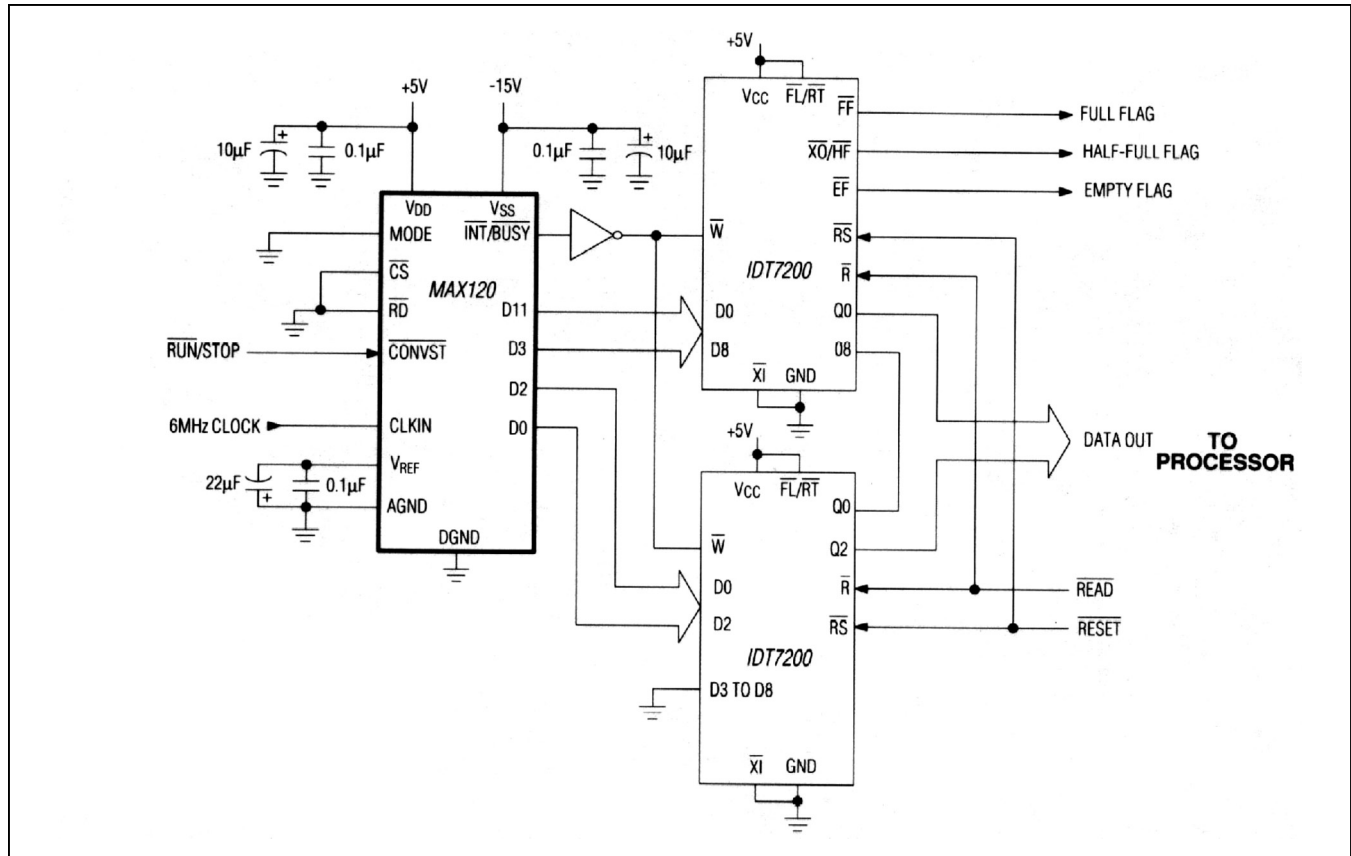

Figure 13. Using MAX120 with FIFO Memory
Using FIFO memory to buffer blocks of data from the MAX120 reduces  $\mu$ P interrupt overhead time by enabling the  $\mu$ P to process data while the MAX120, unassisted, writes conversion results to the FIFO. To retrieve a block of data, the  $\mu$ P reads from the FIFO via a read-interrupt cycle. Read and write operations for the FIFO are completely asynchronous. Figure 13 shows the MAX120 operating in continuous-conversion mode (mode 5), writing data directly into the two IDT7200 256 x 9 FIFO buffers at the rate of 428ksps. The  $\mu$ P is interrupted to read the accumulated data by the FIFO's half-full (HF) flag approximately three times per millisecond. For operation at 500ksps, use an 8MHz clock, and pulse  $\overline{CONVST}$  at 500kHz. The full flag (FF) indicates that the FIFO is full. If this flag is ignored, data may be lost. If necessary, conversions can be inhibited by pulling  $\overline{CS}$ ,  $\overline{RD}$ , or  $\overline{CONVST}$  high. The FIFO's read cycle times are as fast as 15ns, satisfying most system speed requirements. The RESET input resets all data in the FIFO to zero.